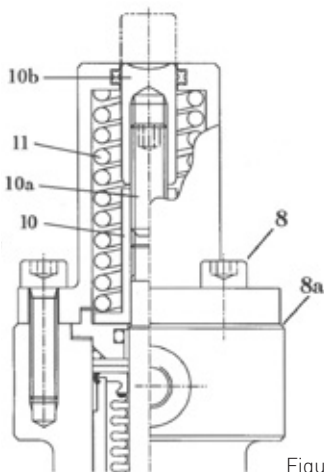

Figure 16
1. Bayonet adaptor units only (spindle seal type B) (See Fig. 16)